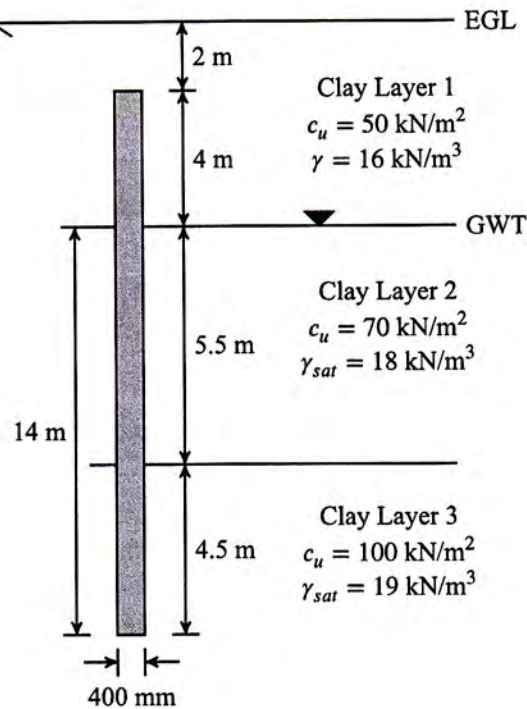

Figure 3: Question 4 (c)
4. (a) What is the importance of minimum spacing of individual piles in a pile group? (2)
- (c) An individual cast in situ concrete pile in soft saturated clay having a diameter (D) of 450 mm is shown in the following figure (Fig. 3). Calculate the ultimate frictional resistance (Q_s) of the pile by the λ method. (7 $\frac{2}{3}$)